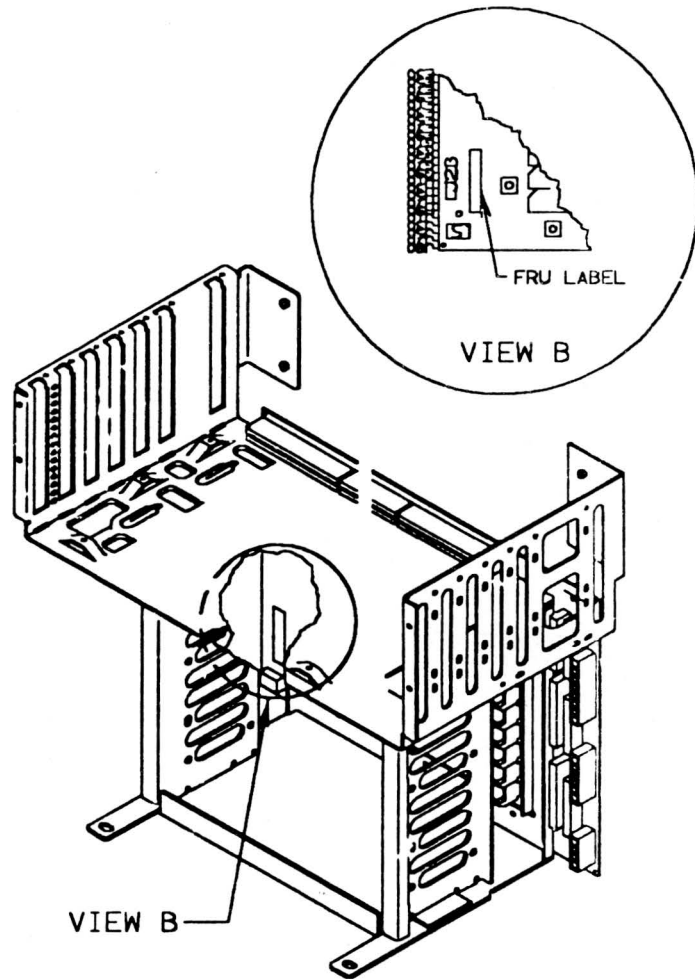

Figure 1
- 10.1.3 Verify that the A1 board needs to be replaced. If the A1 board has a vertically positioned FRU label, which can be seen on the lower left corner of the A1 board by looking between the logic unit and the fan (see Figure 1), or if the A1 board has a rework wire connecting A1B2M04 to A1G2P13, then it does not need to be replaced. Proceed to Step 10.1.19 for switch settings on the A1 board, and then go to Step 10.2 of this instruction.